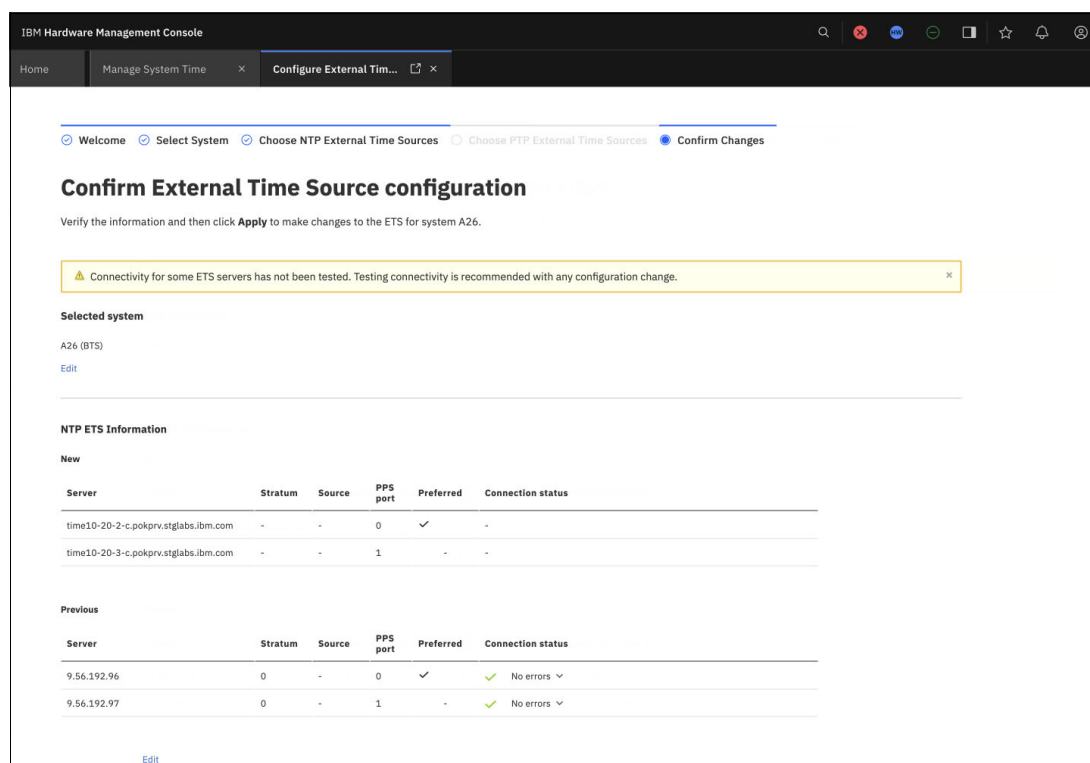

Figure 4-35 ETS changes overview
- View the configuration confirmation screen (Figure 4-35 on page 86). Verify the proposed configuration and click **APPLY**.